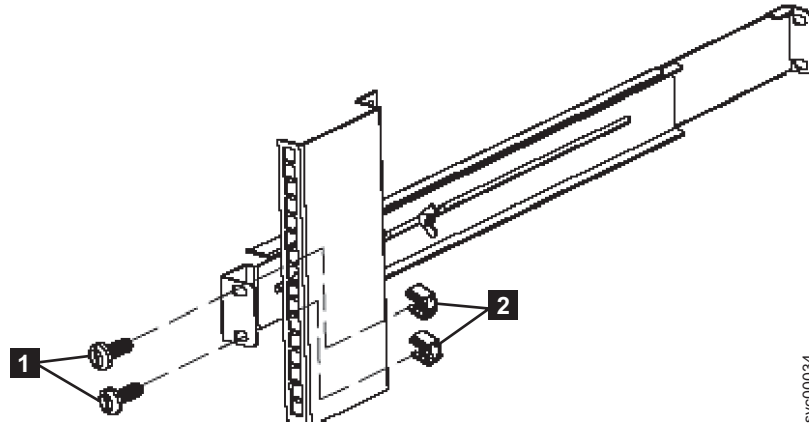

Figure 86. Removing the rear rail on the UPS 5115
5. Remove the two M6 × 10 screws (**1** in Figure 86 on page 213) and two clip nuts (**2** in Figure 86 on page 213).